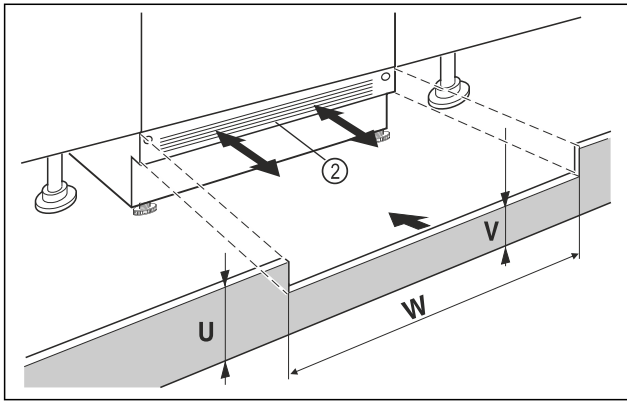

Fig. 71 Example illustration
- ▶ Put on the appliance base cover Fig. 71 (2) but do not fix it in place yet.
- ▶ If the base panel is visible Fig. 71 (2), pull it forwards so that the front edge of the ventilation grille and the unit base panel are level.
- ▶ If the base panel is concealed Fig. 71 (2), push it all the way back.
- ▶ Ensure that the ventilation slots are completely free: If necessary, cut the height of the unit base panel Fig. 71 (U) to size!
- ▶ Adjust the web height Fig. 71 (V) under the appliance base panel Fig. 71 (2) along the niche width Fig. 71 (W).